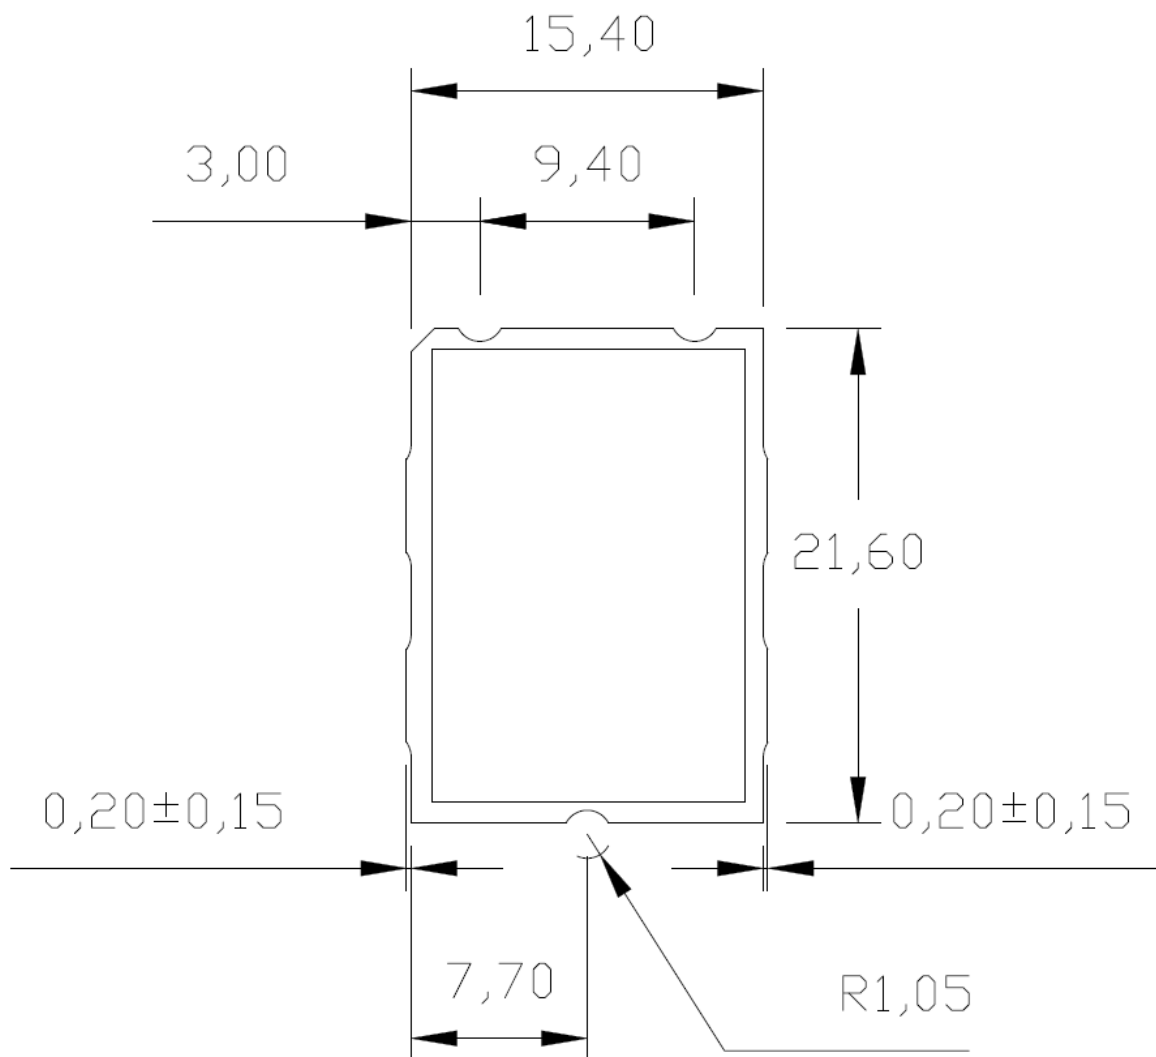

Figure 2: Module dimensions
The dimensions of the module are outlined in millimeters in figure 2 below. Please notice the three (3) guidance markings (two at the top of the module, and one at the bottom). Please refer to the footprint overview on the next page for dimensions and location of the soldering points.